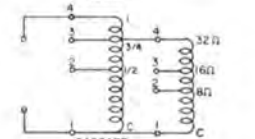

FIGURE 2
2. Series (Fig. 2) for matching a 140-volt, 260-watt line to 16 or 32 ohms.